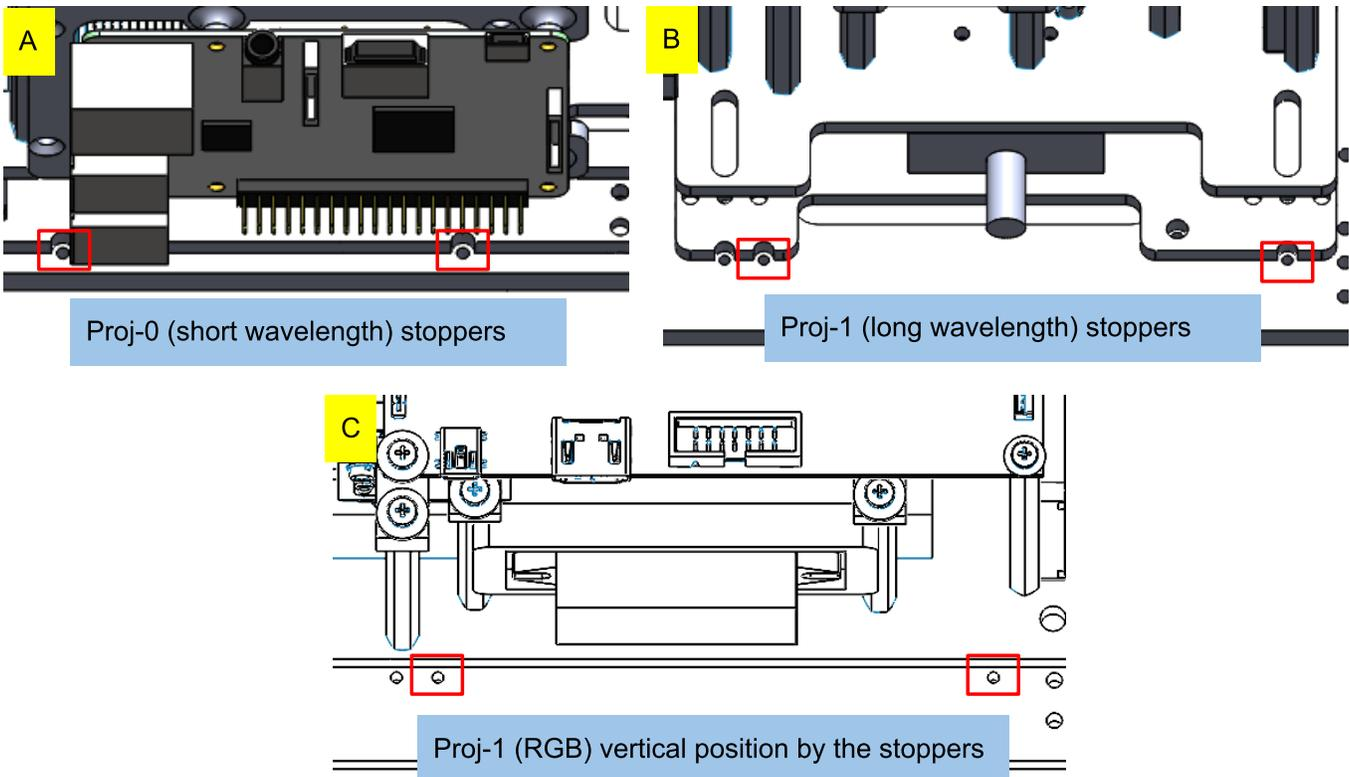

Fig. 23. Projector mounting guide stoppers
- There are projector mounting guide stoppers (**Fig. 23**) for projectors. With the **-UV projectors** (365 & 405 nm), the **notches** on the projector assembly bottom plate will match with these stoppers. The **RGB projector** does not have the notches, thus place the projector above these stoppers (**Fig. 23-C**) and tighten the 3 x mounting screws.